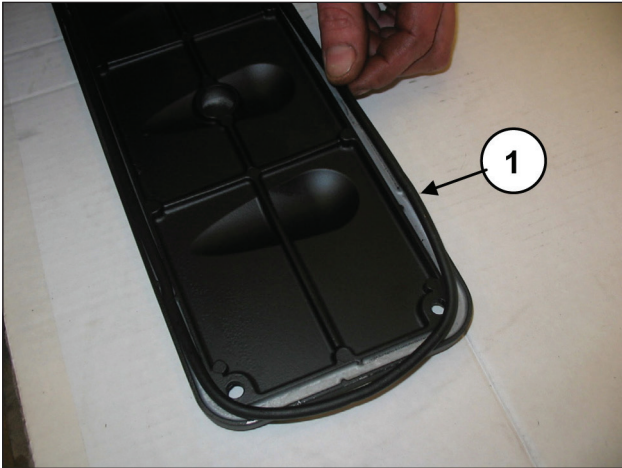
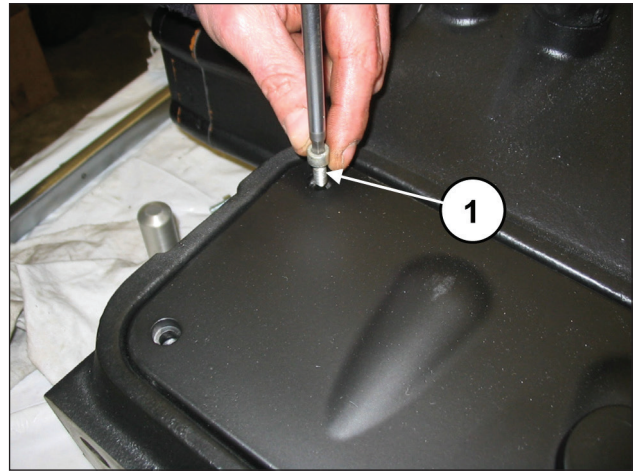

Fig. 154
Fig. 155
On the inspection covers insert the O-ring (pos. ①, Fig. 154) and assemble the covers with the use of 4+4 M6x14 screws (pos. ①, Fig. 155).